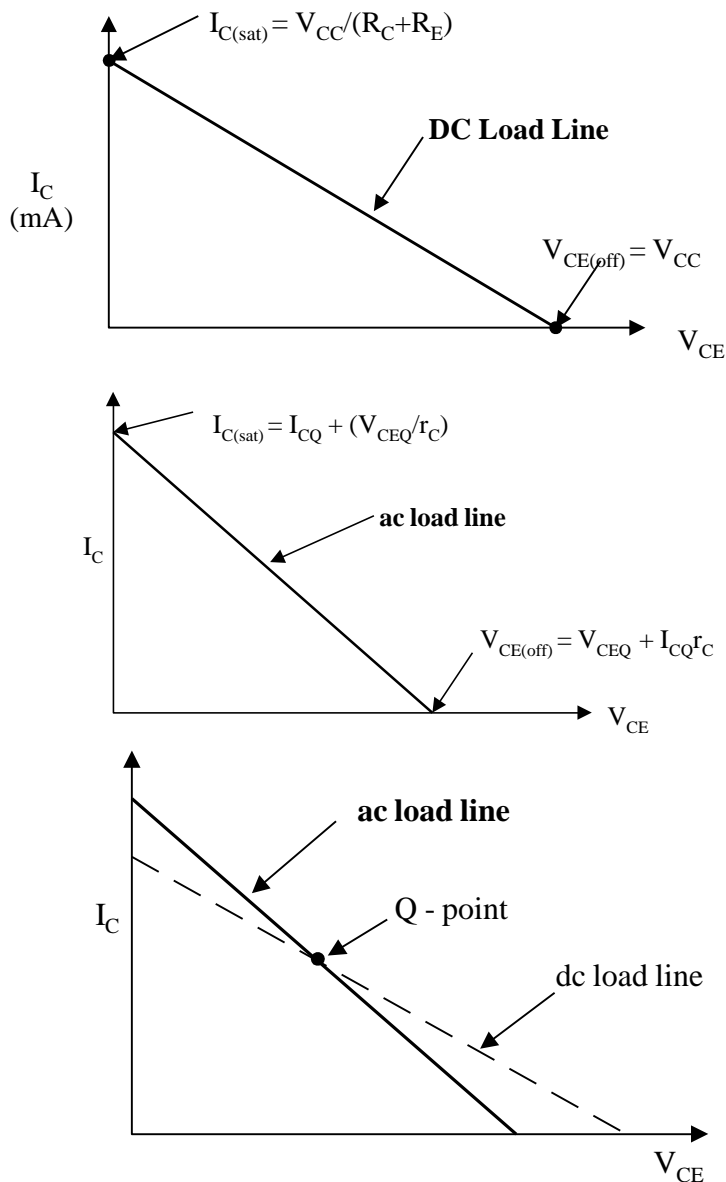
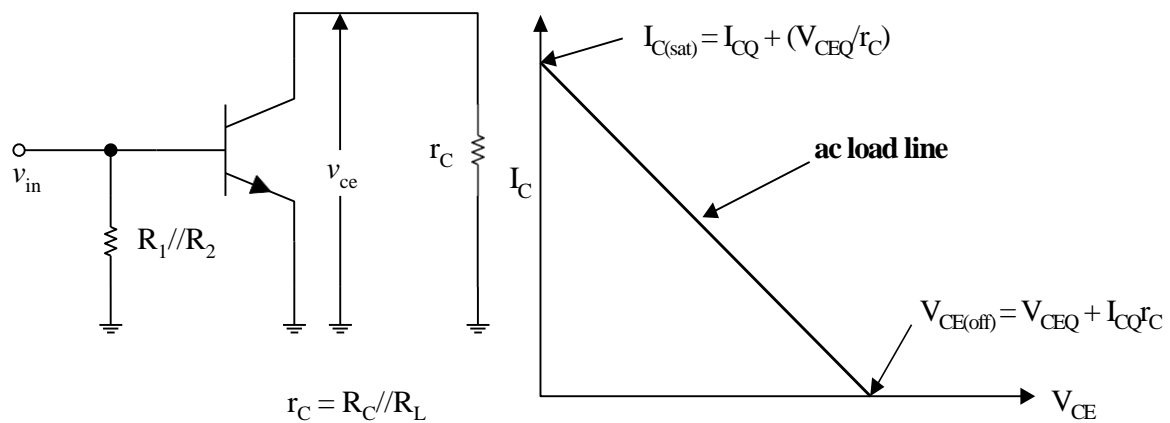

Figure 3.23 AC load line
Figure 3.24 AC saturation current and AC cut-off voltage
- Ac load line, saturation current and cut-off voltage are shown in Figure 3.23 and Figure 3.24.